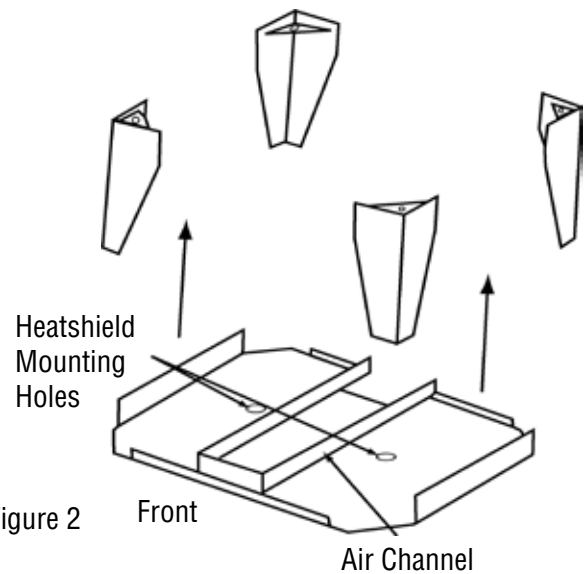

Figure 2
4. Use the two bolts and washers provided with the heatshield kit to mount the heatshield as shown in Figure 2.